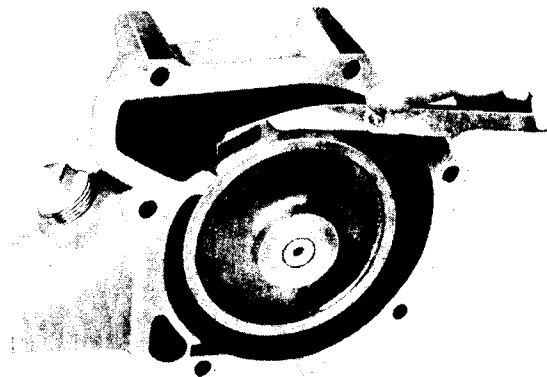

Fig. L.6.
9. Press the impeller onto the shaft ensuring that a clearance of 0.012 to 0.035 in (0.30 to 0.89 mm) is maintained between the inner edge of the impeller and the pump body (see Fig. L.6).